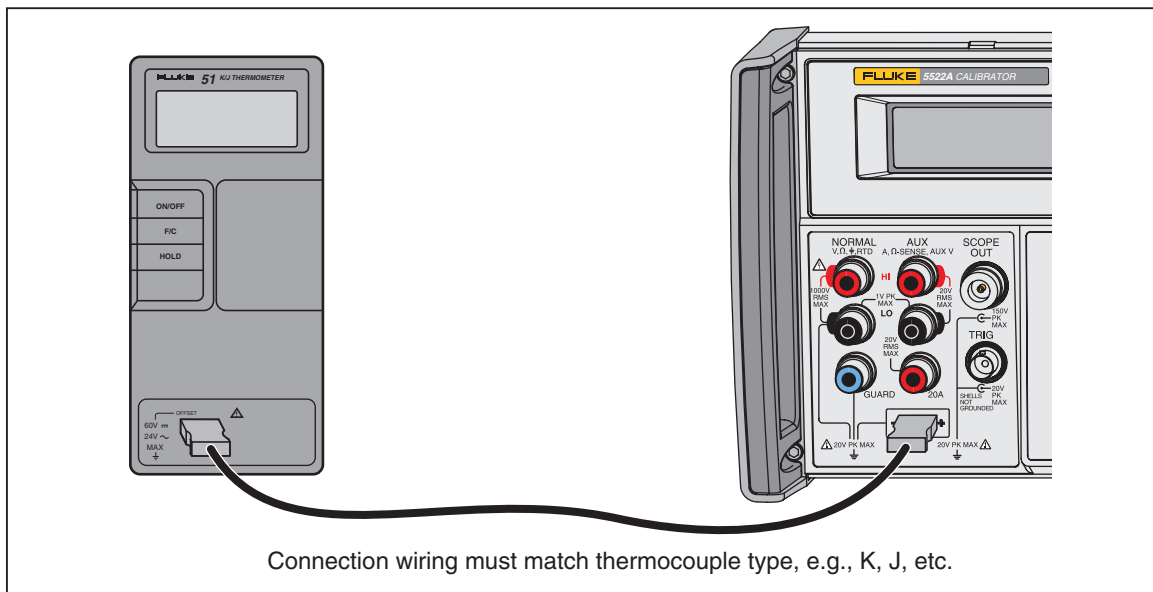

Figure 4-22. Cable Connections for Testing a 50 Series Thermometer
1. Connect the Fluke 51 Thermometer to the calibrator using the appropriate connection cable (Figure 4-22). The connection cable and miniconnector material must match the thermocouple type. For example, if testing a K thermocouple, the cable and miniconnector are for a type K thermocouple.
2. Ensure the calibrator is in standby and connect the UUT to the calibrator as shown in Figure 4-22. When making this connection with the UUT case top removed, make sure that the wide blade is oriented the same as the case top would normally allow.